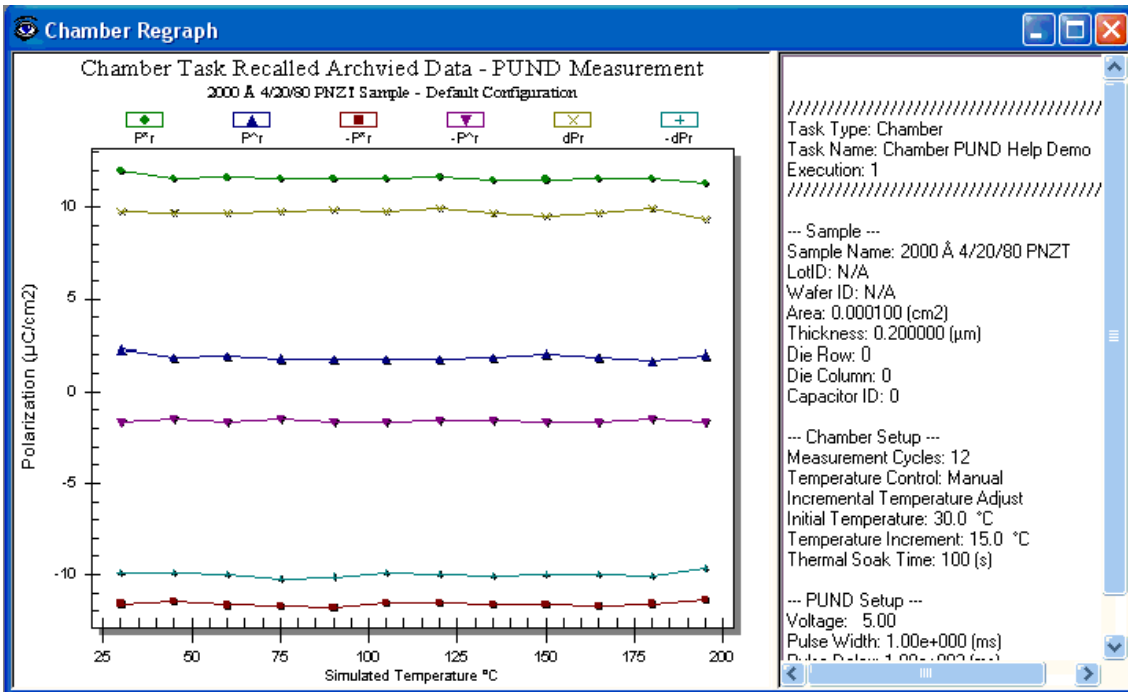

Figure J.1.3 - Chamber Task Data Recalled from a DataSet Archive. Cef is Plotted. Temperatures are Synthetic.
- **Text File** - Selecting this option enables the *Browse for File Name* button. Clicking this button will open a standard browser dialog in which a file name and path must be selected. If the file already exists, the output will be appended to existing text. An output file name must be specified for this export. The figures show a partial sample of the text export from a file generated using the data shown in **Figure J.1.3**.